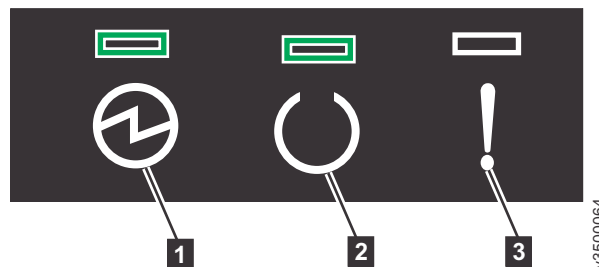

Figure 122. Expansion canister LEDs
2. From the rear of the expansion enclosure, check the LEDs on each expansion canister (see Figure 122).